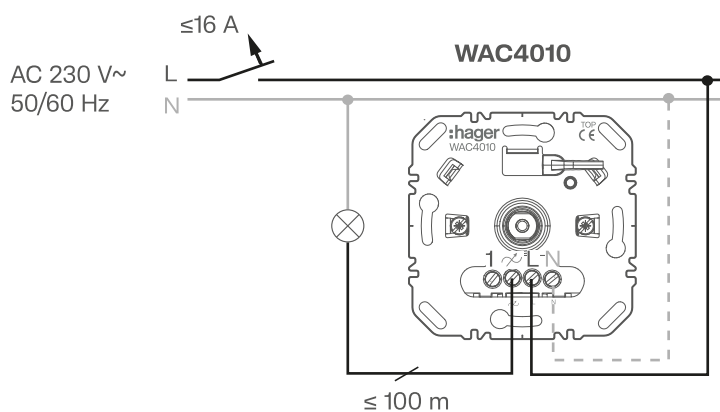
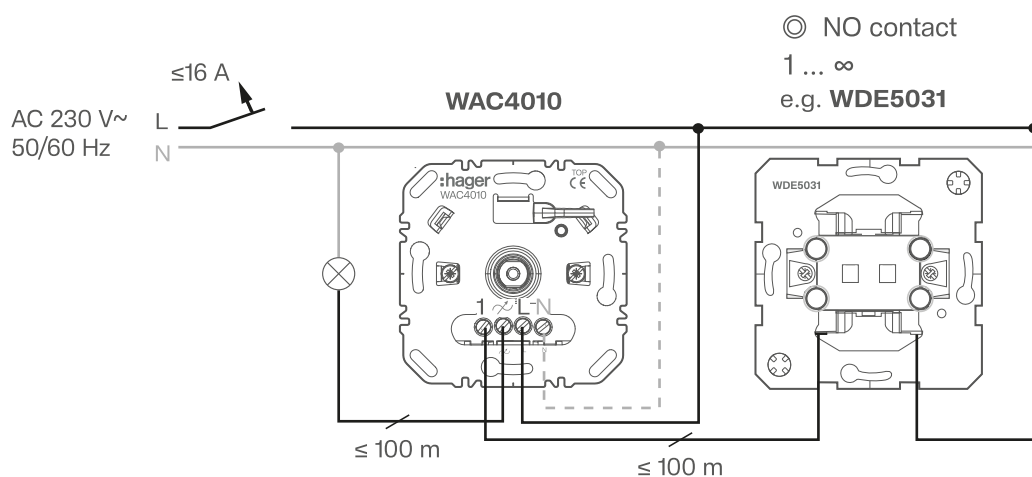

Fig. 11: Connection diagram
Fig. 12: Connection diagram with optional push button extension unit
- Connect the device according to the connection diagram (Fig. 11 or Fig. 12).